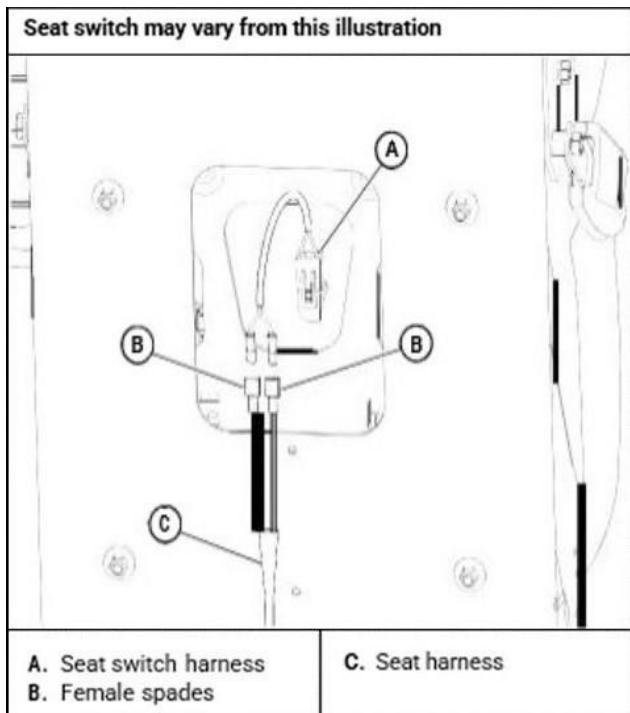

Figure 7
- Bypass the seat switch by connecting the two female spade connectors together. [Figure 7]
- Reconnect them to the seat switch. This must be completed so that the safety circuit is functioning properly. [Figure 7]